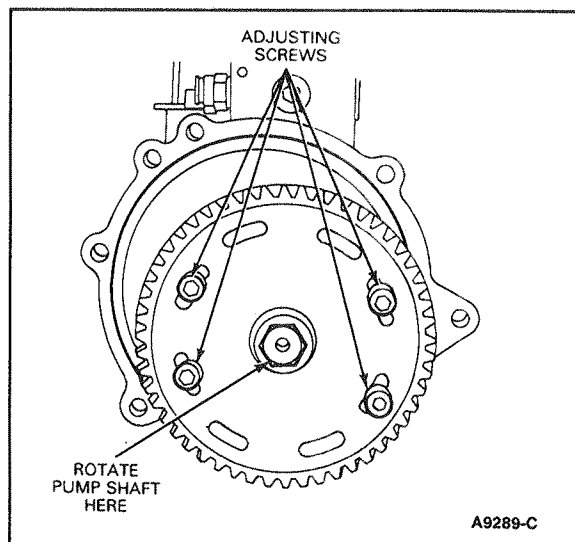

Figure 19 Injection Pump Gear Hub Adjusting Screws
4. To adjust timing, loosen the four adjusting screws on the injection pump gear hub (Figure 19). Rotate the pump shaft until the pump timing lock pin can be pushed into position and fully seated.